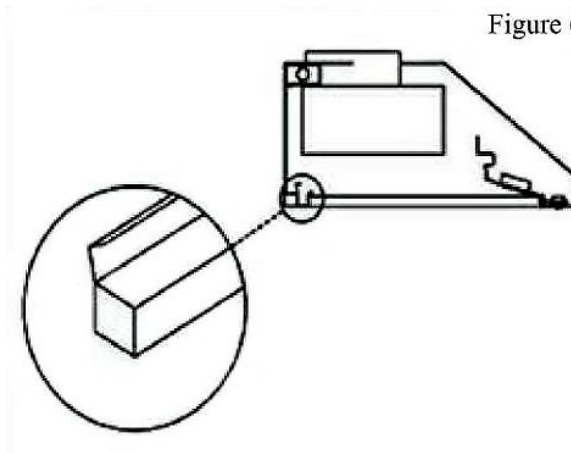

Figure 6
Step 6: Place oil tray into recess support near the rear of the hood. Refer to *Figure 6*.